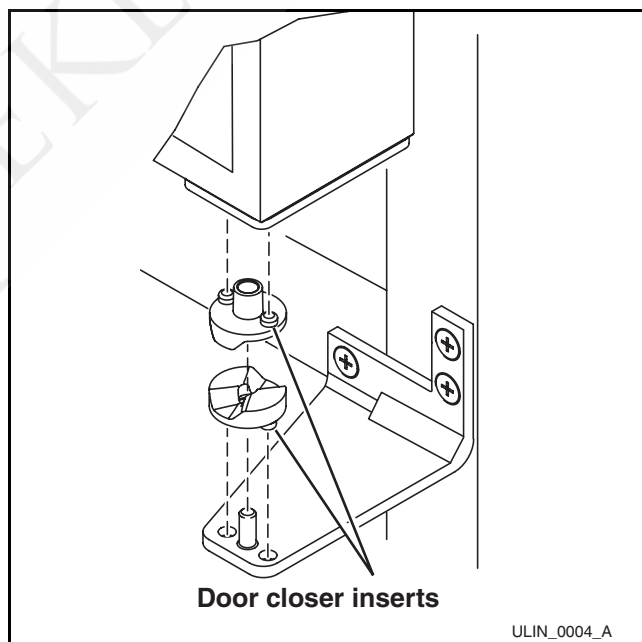

Figure 32
5. After adjustment is complete, remove the door closers from the bottom hinge, clean thoroughly and apply petroleum jelly to the mating surfaces of the closers. Be sure that bosses on closers (**Figure 32**) align with holes in the door and bottom cabinet hinge plates. Mount door and install top hinge pivot pin.